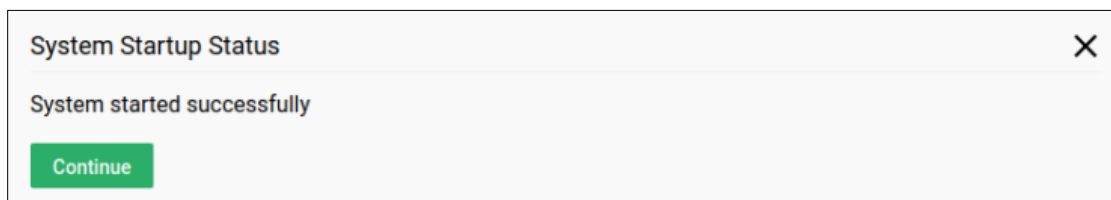
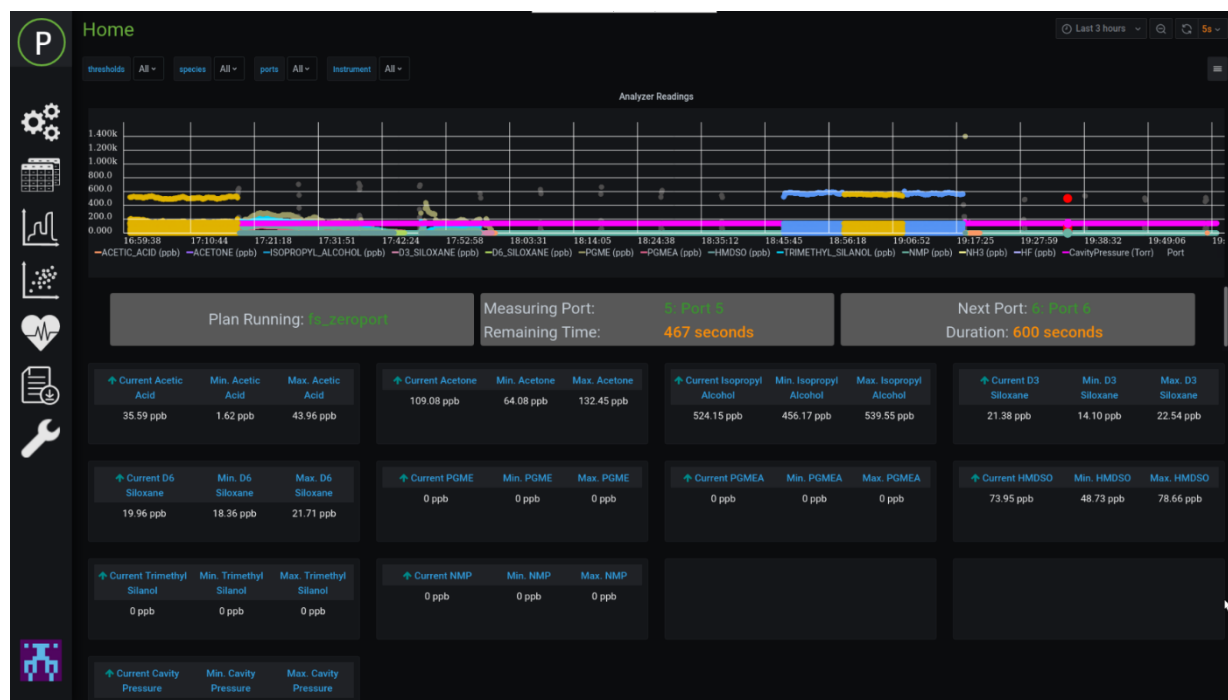

Figure 16: System Startup Status Success
Figure 17: SAM Home Page
- Once the system startup loading has completed successfully, the startup status pop-up screen displays a **Continue** button (Figure 16). Upon clicking **Continue** you will be advanced to **Home** page, as shown in Figure 17.